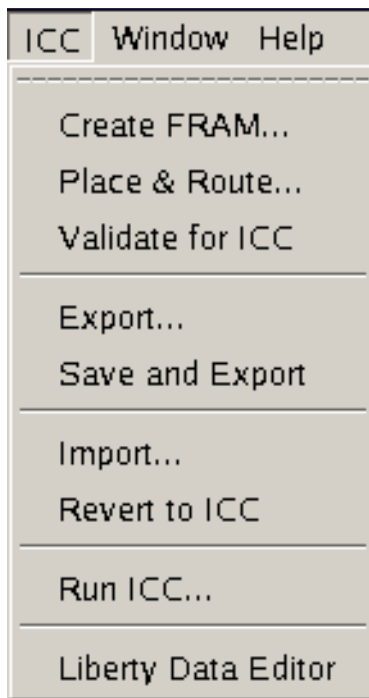

Figure 1 ICC Menu
- In any design window, choose **Tools > ICC Link** to add the ICC menu choice to the design menu, shown in Figure 1.